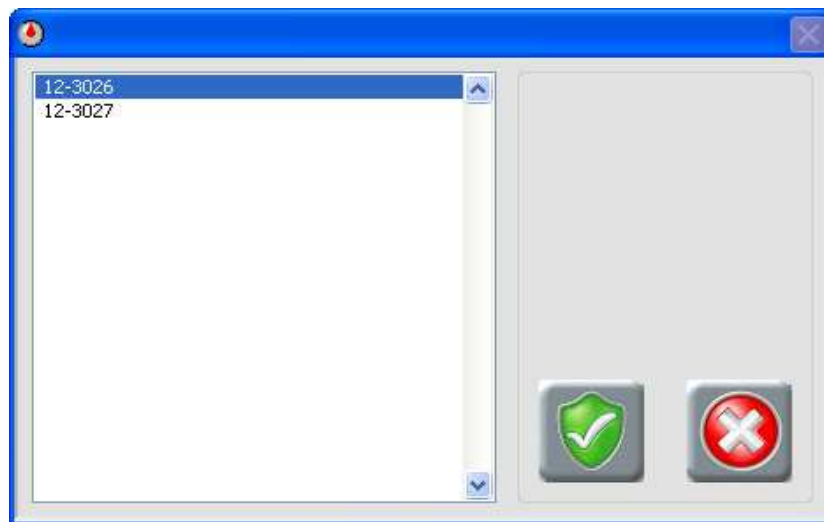

Fig. 6-29
5.  Select the batch file from the list (see Fig. 6-29) and click the **Confirm** button.